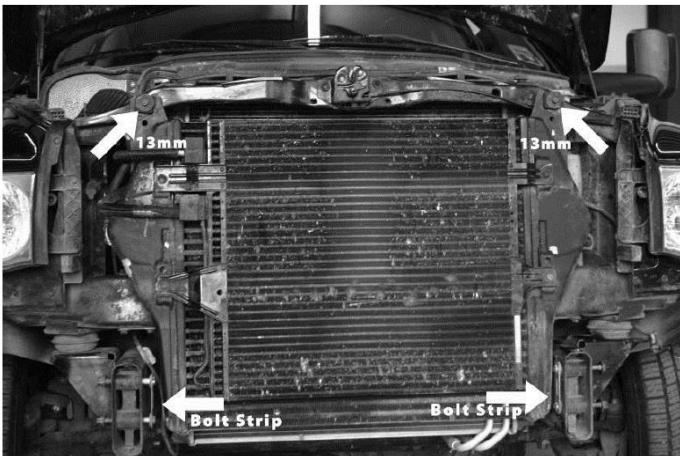

Figure 1 - BOLT STRIP AND INTERCOOLER MOUNT LOCATION
2. Diesel Only: Remove two (10mm or 13mm) bolts holding top of intercooler to radiator support (Figure 1)